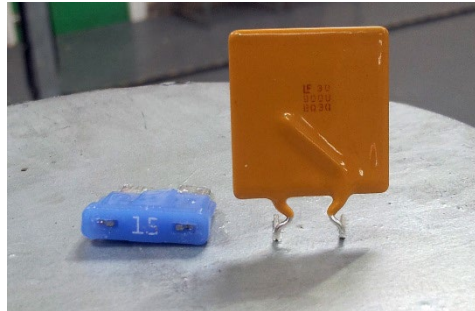

Figure 7 - Actuator Fuses
- Each gate has two fuses fitted in series, the first is a 15-amp spade style fuse (Figure 7, left side) and the second is an automatically resetting thermal fuse (Figure7, right side).